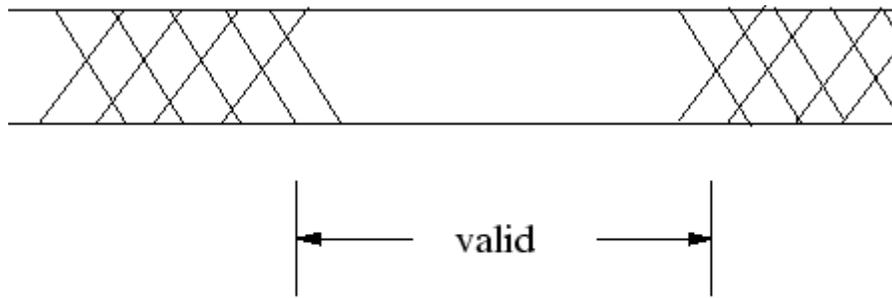

Figure 5: A Data Bus
- Data bus contents should be abbreviated as shown in Figure 5, unless one of the data bits must be drawn separately for one of the reasons above.